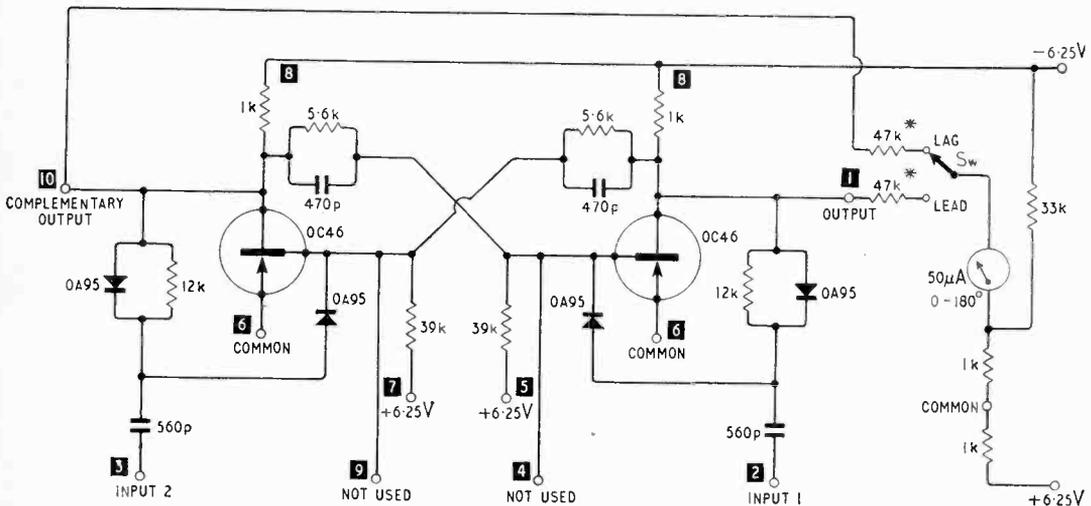

Fig. 6. Mullard COMBI-element flip-flop and phase indicating voltmeter.
**Flip-Flop Stage:—**Fig. 6 is the complete circuit diagram of the Mullard COMBI-element flip-flop, type